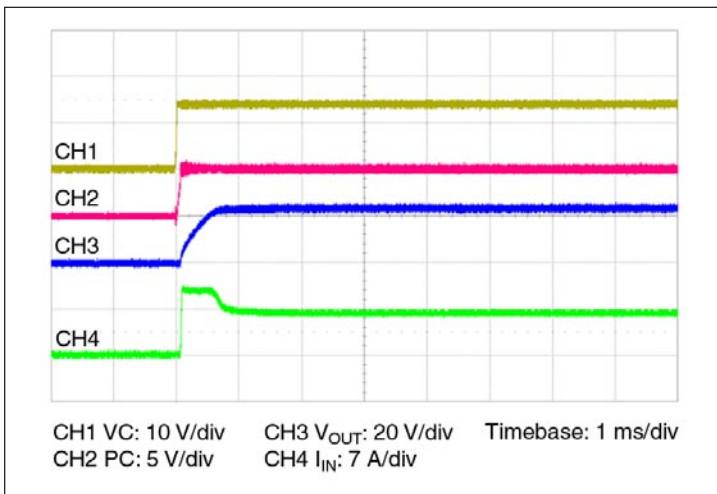

Figure 11 — Start up from application of VC;
- **Stand-alone operation (VC applied after V_{IN}):** In this case the VTM output will begin to rise upon the application of the VC voltage (See Figure 11). The Adaptive Soft Start Circuit (See Section 11) may vary the output rate of rise in order to limit the inrush current to its maximum level. When starting into high capacitance, or a short, the output current will be limited for a maximum of 1200 μ sec. After this period, the Adaptive Soft Start Circuit will time out and the VTM module may shut down. No restart will be attempted until VC is re-applied or PC is toggled. The maximum output capacitance is limited to 375 μ F in this mode of operation to ensure a successful start.